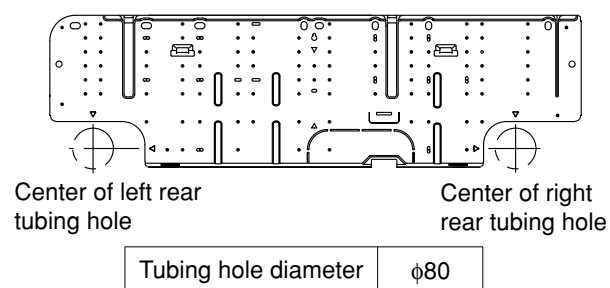
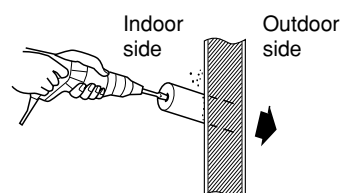

Fig. 3-62
Fig. 3-63
- (1) Remove the rear panel from the indoor unit and place it on the wall at the location selected. Fix the rear panel and hook the unit onto it temporarily. Make sure the unit is horizontal using a carpenter's level or tape measure to measure down from the ceiling.
- (2) Determine which notch of the rear panel should be used. (Fig. 3-62)
- (3) Before drilling a hole, check that there are no studs or pipes behind the determined location. The above precautions are also applicable if tubing goes through the wall in any other location.
- (4) Using a sabre saw, key hole saw or hole-cutting drill attachment, make a hole (dia. 80 mm) in the wall. (Fig. 3-63)